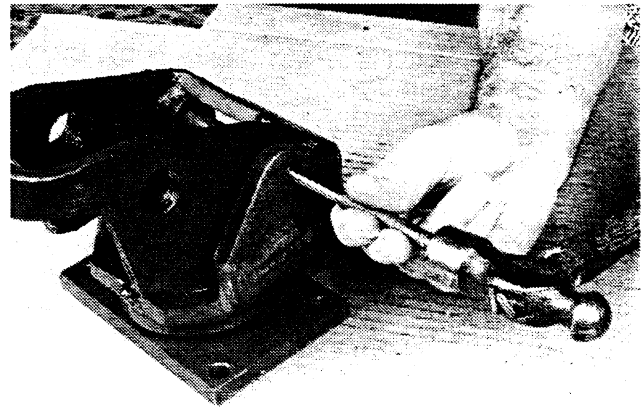

Figure 6-70: Removing Pivot Pin
4. Use hammer and pin punch to drive out the pivot pin and washers. See Figure 6-70.